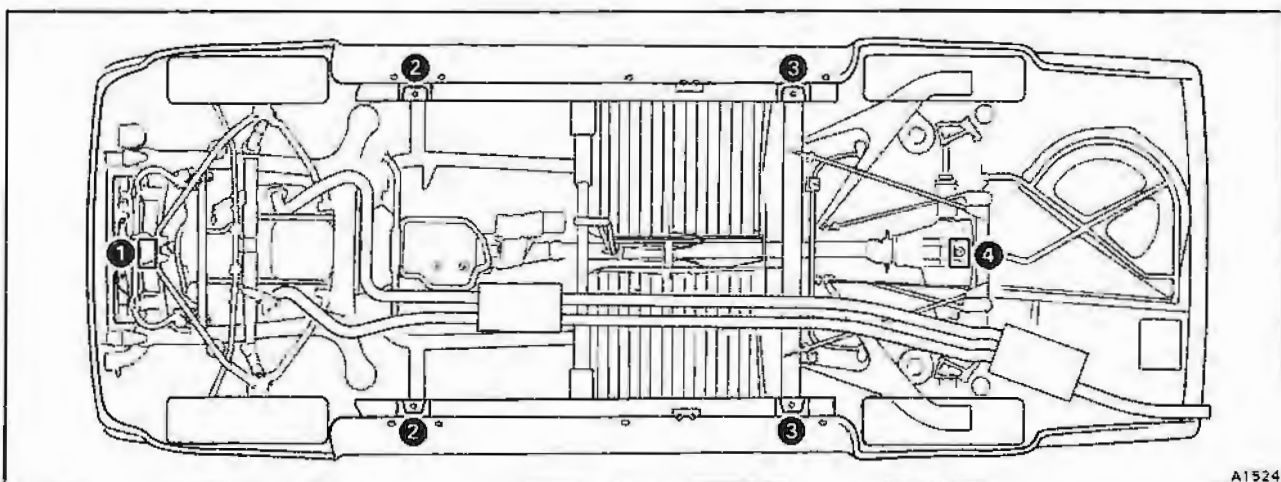
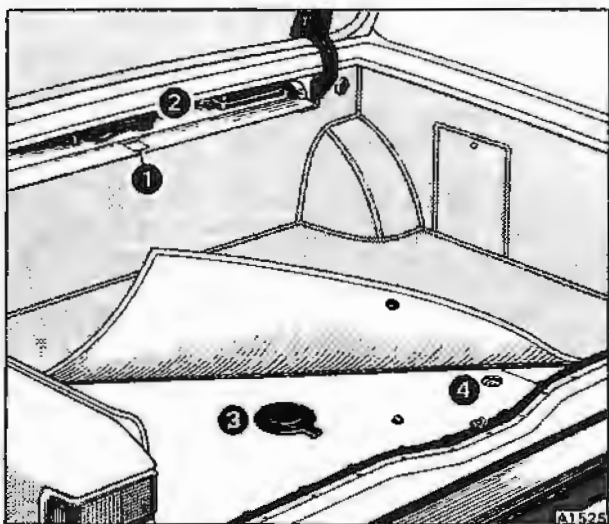

Fig. R2-1 Car jacking positions
Fig. R2-2 Luggage compartment
Refer to figure R2-1 for the car jacking positions. The car jack is stowed behind the trim panel situated at the front of the luggage compartment (see fig. R2-2).
Each road wheel incorporates a locking wheel trim, the lock being concealed by a protective cover. A small tool for removing the cover and a key for the wheel trim lock are contained in a pocket on the inside of the tool stowage compartment trim flap (see fig. R2-2).
Position a trolley jack under the front pivot mounting for the lower triangle levers on the sub-frame (see fig. R2-1, item 1). Place a piece of soft wood between the jack head and the mounting.
Alternatively, raise the car using one of the two front jacking points situated on the car underbody (see fig. R2-1, item 2) utilizing the car jack.
Position a trolley jack under the centre of the final drive casing (see fig. R2-1, item 4). Place a piece of soft wood between the jack head and the final drive casing. **Do not jack the car under the final drive crossmember.**
Alternatively, raise the car using one of the two rear jacking points situated on the car underbody (see fig. R2-1, item 3) utilizing the car jack.
1. Remove the rubber access plug situated underneath the luggage compartment floor carpet (see fig. R2-2).
3. Using the wheel nut spanner and bar provided in the tool kit, turn the carrier lowering bolt (see fig. R2-2) anti-clockwise until further rotation is prevented.